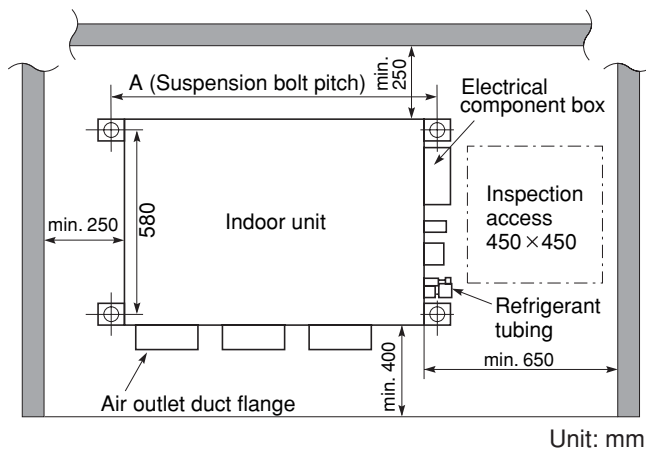

Fig. 3-98
- The minimum space for installation and service is shown in Fig. 3-98 and Table 3-5.
- (1) When placing the unit inside the ceiling, determine the pitch of the suspension bolts referring to the dimensional data on the previous page. (Fig. 3-98 and Table 3-5)